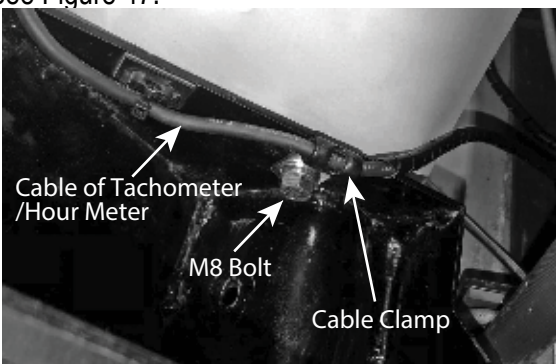
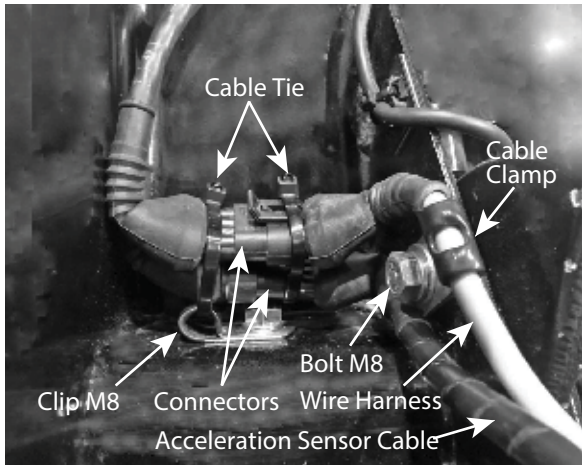

Figure 47. Cable Clamp Removal
Figure 50. Secure Cable Connections
1. Remove the 8 mm bolt securing cable clamp on the lower right side of back of rear cover and remove the cable clamp from the cable of Tachometer / Hour meter. See Figure 47.
6. Place the cable clamp that was removed earlier (Figure 47) to wire harness (P/N 467358210). Then, Secure the cable clamp placing the wire harness with 8 mm bolt. See Figure 50.
7. Secure the connectors to the clip M8 with cable ties. See Figure 50.